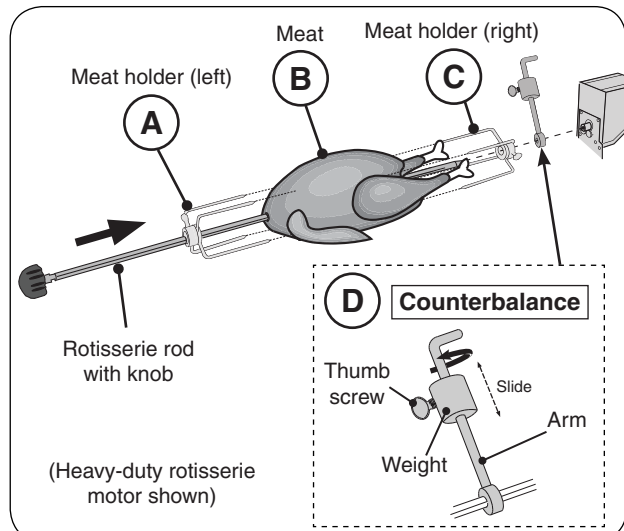

Fig. 29-3 Assemble rotisserie rod for cooking
4. Slide the left meat holder onto the rod and tighten (see Fig. 29-3, A).
5. Then slide meat onto the rod, followed by the right meat holder (see Fig. 29-3, B and C).
8. The counterbalance may then be attached to even weight distribution. Slide the counterbalance onto the rod next to the right meat holder (see Fig. 29-3, D). Loosen the arm and point it upward opposite the heavy side of the meat. Tighten the arm.
9. Slide the counterbalance weight up or down the arm until the rod rotates most evenly then tighten thumb screw (see Fig. 29-3, D).